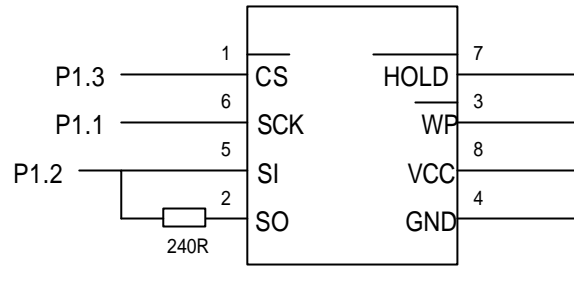

Fig. 1 Three-wire connection
The EEPROM is connected to the C868 microcontroller in three-wire configuration as shown in Fig.1. In this configuration, the EEPROM serial data in (SI) and serial data out (SO) are both connected to the same C868